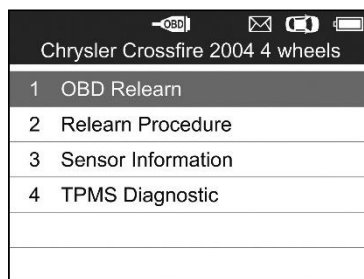

Figure 4.19
- 5) The tool will display a function screen as below. Use the **UP/DOWN** scroll button to select the desired menu and press the **Y** button to continue (Figure 4.19).
- 1) Select **OBD II Relearn** to write IDs to vehicle directly without performing further procedures (Figure 4.19).